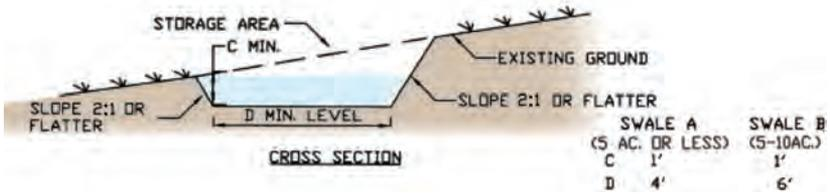

Figure 3.2. Diversion swale cross section with 2:1 side slopes.
**Swales** are temporary channels used to convey runoff to a sediment trapping device (Figure 3.2).